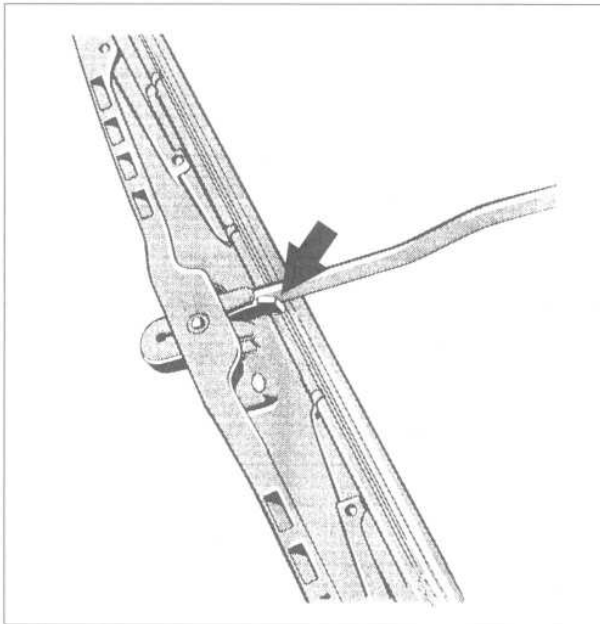

Fig. 1. Windshield wiper blade retaining tab. Press in on tab (arrow) to release blade from arm.
3. Remove wiper blade from wiper arm by depressing retaining tab and sliding blade out of arm. See Fig. 1.